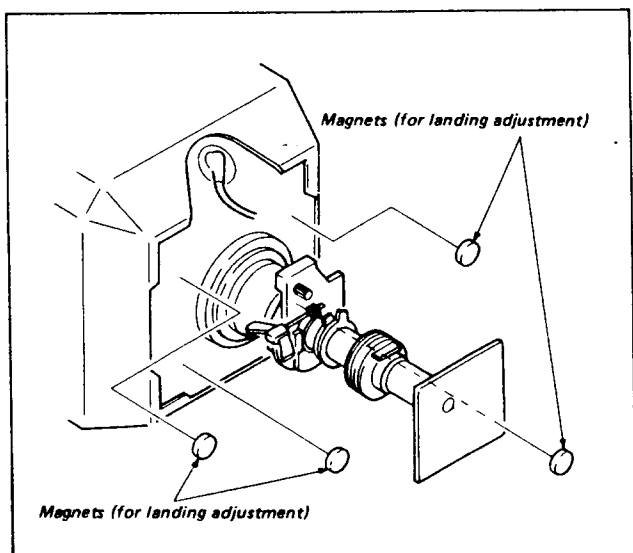

Fig. 2-4-1
- 6) Attach magnets on the panel side if necessary as shown in Fig. 2-4-1. (Do not exceed one magnet at each corner.)